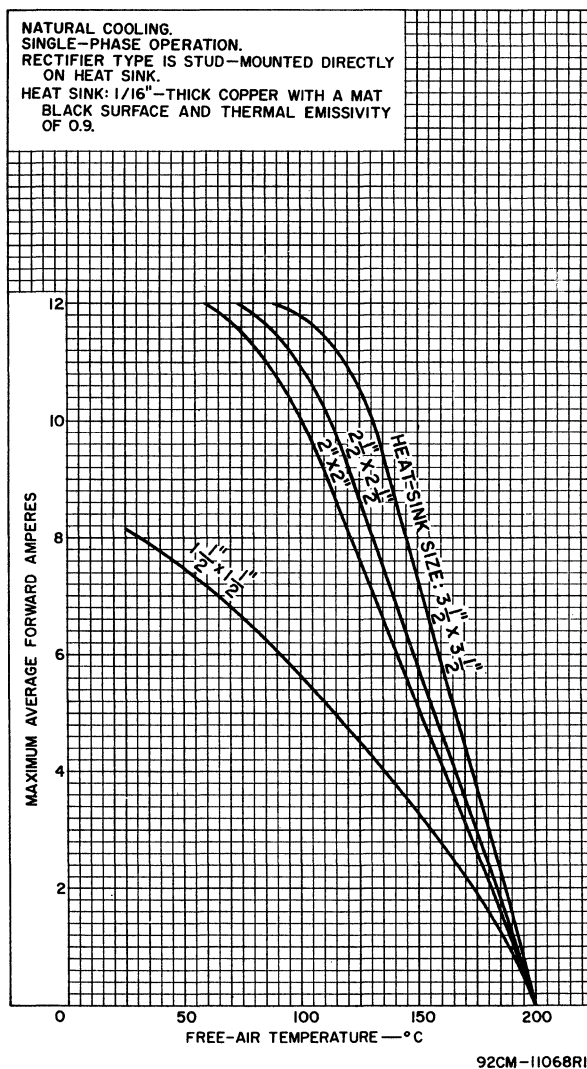
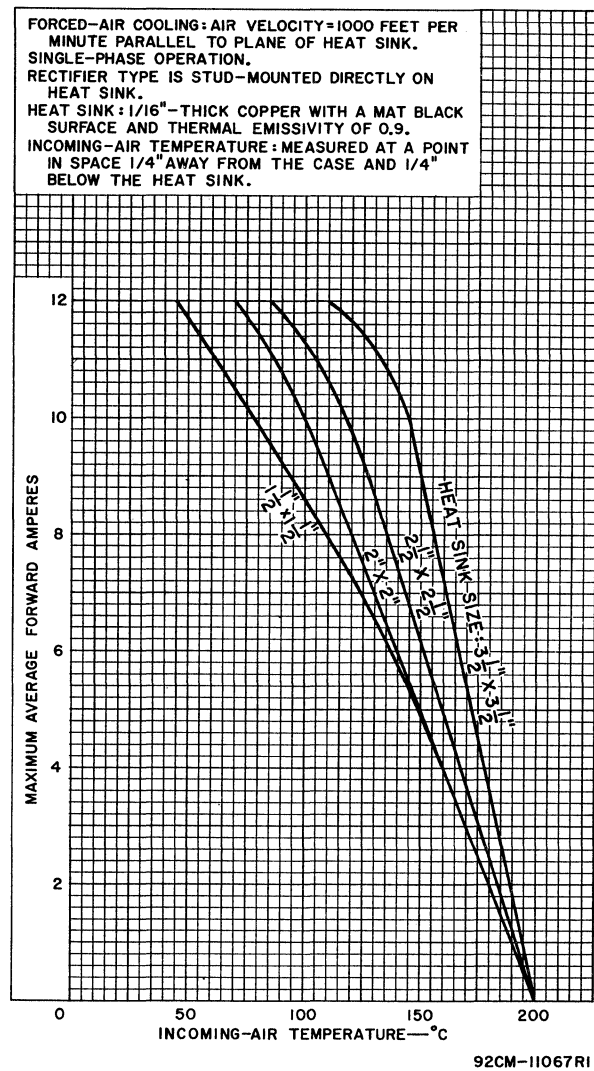

Fig.2 - Operation Guidance Chart for all Types and corresponding reverse-polarity versions.
Fig.3 - Operation Guidance Chart for all Types and corresponding reverse-polarity versions.
Fig. 5 is used in conjunction with Fig. 2 and Fig. 3 to determine maximum average forward amperes
Step 3: Multiply average forward amperes established in Step 2 by the current-multiplying factor established in Step 1 to determine adjusted average forward amperes per rectifier cell, for use with Fig. 2 or Fig. 3.
Step 4: Using the product obtained in Step 3, determine from Fig. 2 or Fig. 3 either (a) the maximum allowable incoming-air temperature or ambient temperature for a given heat-sink size, or (b) the minimum heat-sink size for a given incoming-air temperature or ambient temperature.
Step 3: Multiplying average forward amperes (10) obtained in Step 2 by the current-multiplying factor (1.18) obtained in Step 1 yields 11.8 adjusted forward amperes.
Step 4: From Fig. 3, for forced-air cooling, the minimum heat-sink size for the conditions shown is $2\text{-}1/2'' \times 2\text{-}1/2''$.